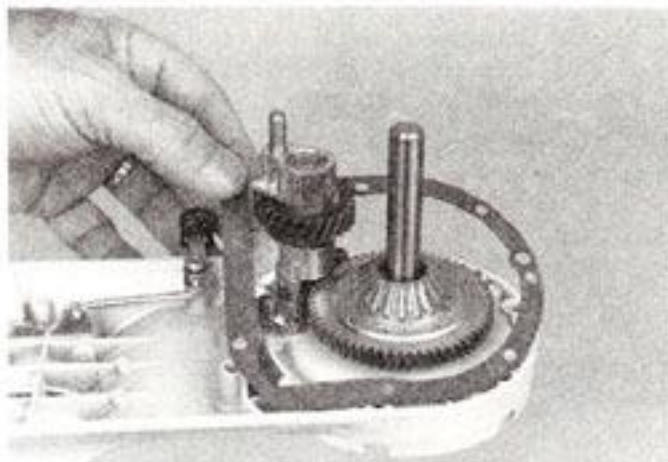

Fig. 61
- M. Clean the gasket surface of the gear case. Place a new gasket on the bottom cover, over the dowel and press it down so it will stay in position (Fig. 61).